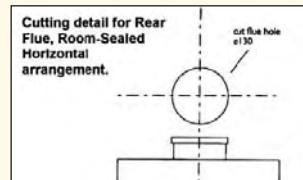

Fig 11.4a
- 1) With the boiler mounted in position, see section 7.0, draw a horizontal line on the wall 210 mm (15, 25 & 45 models) above the top of the boiler. See fig 11.4a.
- 2) Mark the center of the flue spigot on the wall, remove the boiler from its hanging bracket and carefully position to one side. Draw a vertical line from the center mark of the flue spigot to intersect the horizontal line. See fig 11.4a.
- 3) At the intersection of the horizontal and vertical lines, cut a 130 mm Ø hole with a core drill. See fig 11.4a.